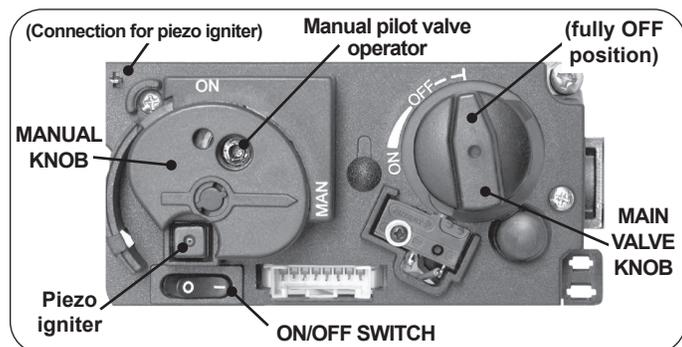
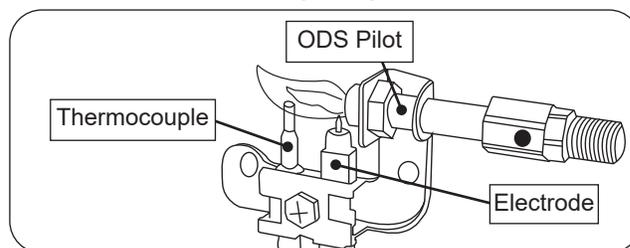

Fig. 26-1 Combination control
Fig. 26-2 ODS Pilot assembly detail
2. Locate the valve on the unit. Turn the control knob clockwise ↻ to **OFF**, the manual knob clockwise ↻ to **MAN**, and place the ON/OFF switch in the **OFF (O)** position (Fig. 26-1).
**Wait five (5) minutes to clear out any gas. Then smell for gas, including near the floor. If you smell gas, STOP! Follow "B" in the safety information above. If you do not smell gas, go to the next step.**
3. Place the ON/OFF switch in the **ON (I)** position.
4. Locate the pilot assembly toward the center of the unit, near the main burner (see Fig. 26-2).
5. Push the manual pilot valve operator **firmly and fully** in and hold. Hold a long-stem match/ long-necked butane lighter near the thermocouple to light the pilot. Continue to hold the knob in for about one (1) minute after the pilot is lit. Release the manual pilot valve operator. The pilot will remain lit. See Fig. 26-1 and Fig. 26-2. If it goes out, repeat steps 2-5.
1. Ensure the pilot is burning. Turn the manual knob counterclockwise ↻ to **ON**. Turn the control knob counterclockwise ↻ to **ON**. See Fig. 26-1. The valve will open and the burner will light.
**To shut down the main burner (pilot will remain lit),** turn the control knob clockwise ↻ to the fully OFF position (see Fig. 26-1).
**To shut down the burner and pilot (total shutdown),** turn the control knob clockwise ↻ to the fully OFF position, and place the ON/OFF switch in the **OFF (O)** position (see Fig. 26-1).